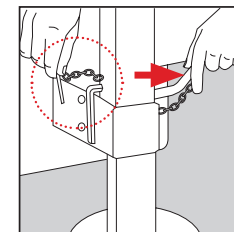

Fig.2
- Take out the safety brackets of the pins. (Fig. 2)
- Pull out the pins vertically. (Fig. 2)